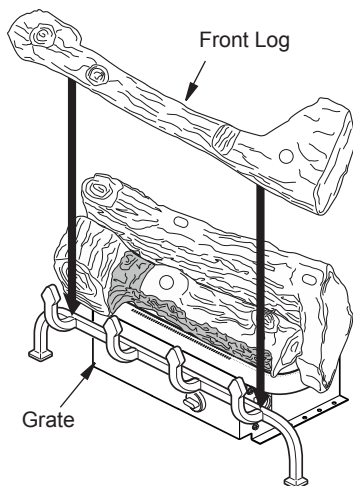

Figure 22 - Installing Front Log
3. Place front log (#3) onto grate as shown in Figure 22.